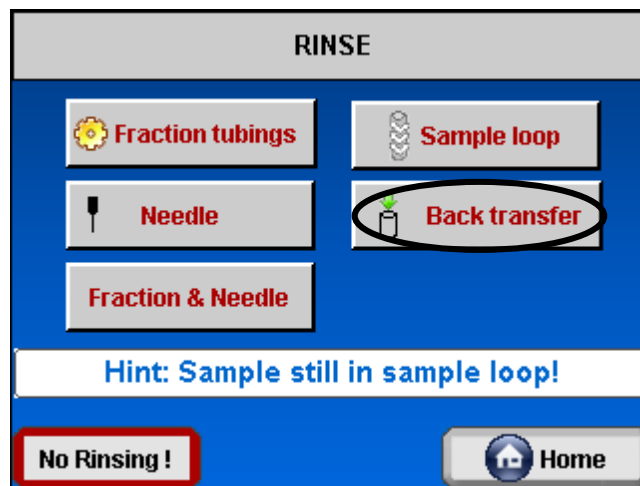

Figure 170: Sample "back transfer" button in the rinse window.
- 1) Back transfer of the sample: In the rinse window, an additional button for the back transfer of the sample to the sample vial will appear (see Figure 170).